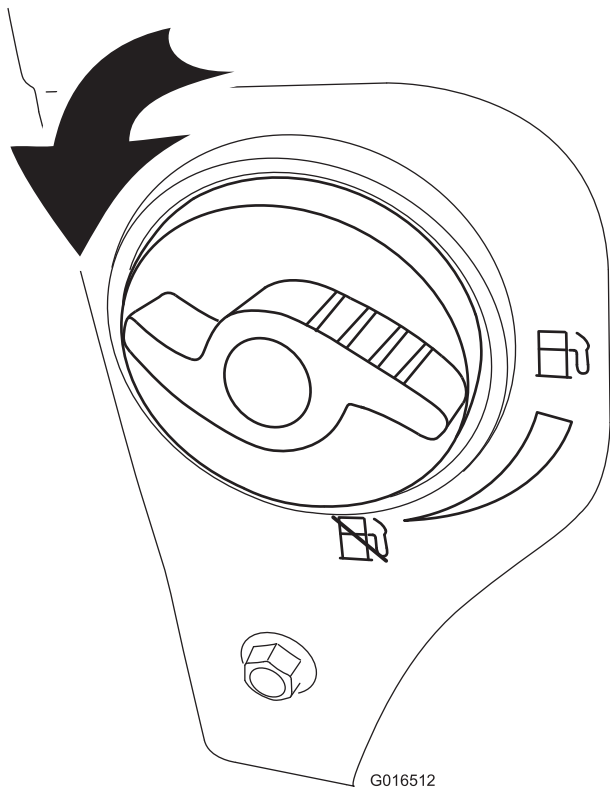

Figure 20
- 2. Turn the fuel-shutoff valve 1/4 turn counterclockwise to open it (Figure 20).